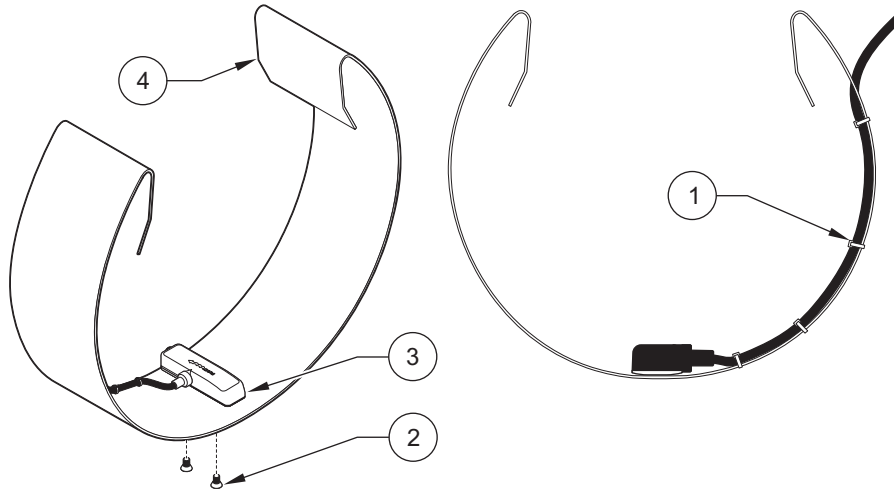

Figure 29 Attaching the Sensor to the Mounting Band
2. Route the cable along the edge of the band and fasten the cable to the mounting band with nylon wire ties (Figure 29 on page 54) to reduce the likelihood of debris collecting on the cable and the mounting band. The cable should exit the tied area at, or near the top of the pipe to keep it out of the flow stream.